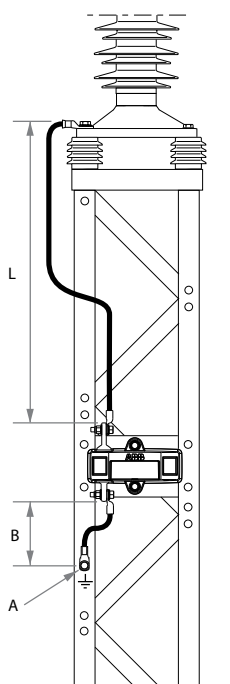

Figure 8.5.1
- The length of the conductor between the arrester and the surge counter is to be minimum 0,5 m when a clip-on CT is to be used for control measurements of leakage current. The maximum length shall not exceed 3 m in the case of the insulating base and conductor having a LIWV of 15 kV. Longer lengths up to 10 m could be used with an insulating base having suitably higher LIWV. The insulated base and conductor shall then be insulated for $5 \times L$ kV (LIWV), where L is the conductor length in meters as shown in figure 8.5.1. Note that connection leads should always be kept as short as possible as longer leads result in a disadvantage from a protection point of view since inductance is added in series with the arrester.
- The conductor from the earth terminal of the counter to connection with the grounded support stand (point A in figure 8.5.1) on to which the counter is attached (or similar support) shall not exceed 0,5 m. For example, length B as shown in figure 8.5.1. The earth conductor may be extended from the connection point at the support to any "earth point" if the support itself, due to local requirements, is not considered as sufficiently grounded. However a flashover of the arrester base may occur if the length (L+B in figure 8.5.1) results in the LIWV as described above being exceeded and the counter may be damaged if the length B exceeds 0.5 m.